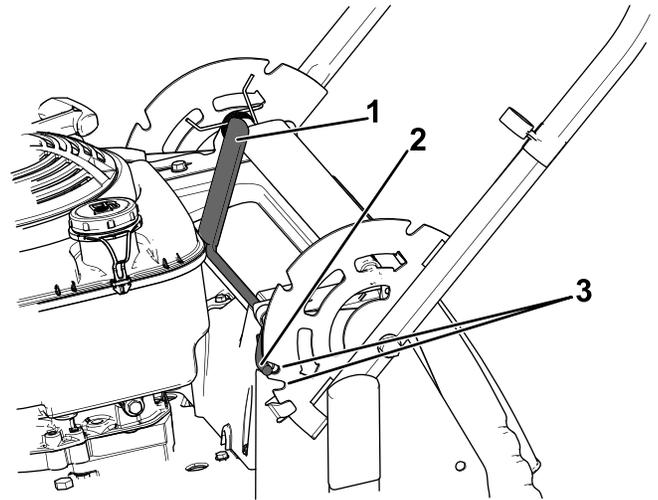

Figure 13
1. Lift the handle slightly and pull the handle-lock lever rearward to disengage the handle-lock pins (Figure 13).
2. Rotate the handle and align the desired notch in the handle bracket to the handle-lock pins; refer to Figure 13.